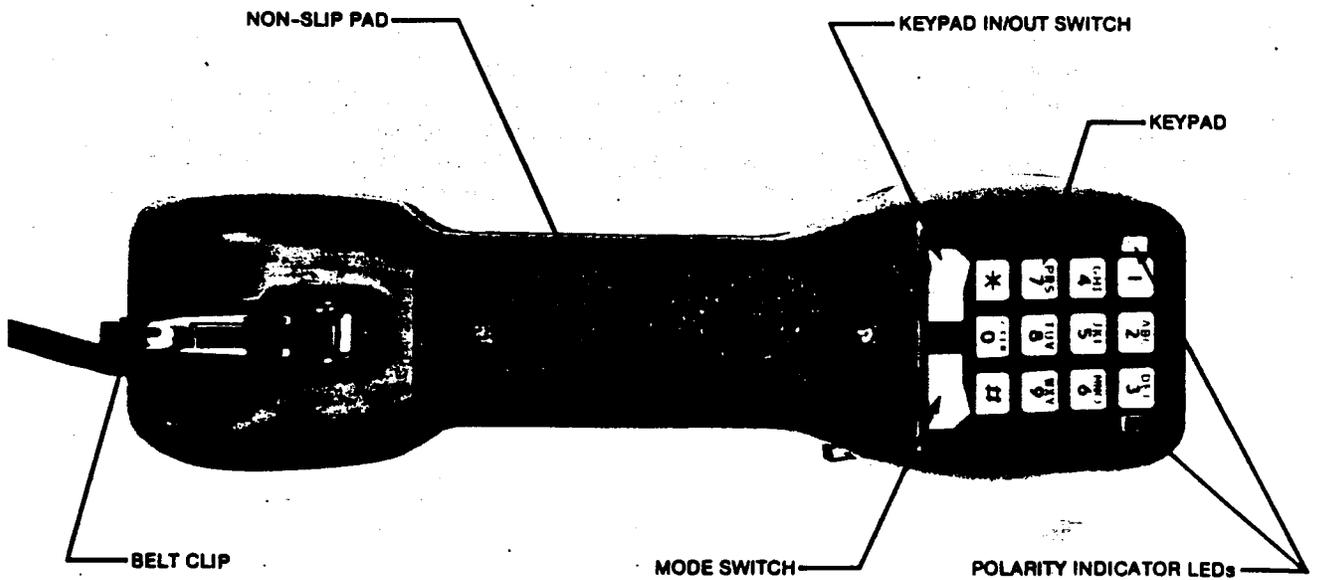

Fig. 3—TS21 Handset Assembly—Dial Side
3.08 Mode Switch: The MODE switch is a white rocker switch located on the bottom right of the keypad bezel (Fig. 3). This switch selects either tone or pulse dialing. In the TONE position, the switch selects the DTMF output. In the PULSE position, it selects the dial pulse output.
3.09 Keypad Switch: This is a white rocker switch located in the bottom left corner of the keypad bezel (Fig. 3). When the switch is set to the IN position, the test set operates as a modern electronic telephone instrument. The IN position is used for all normal communications functions. Set to the OUT position, the switch bypasses the electronics including the keypad. In this mode, dialing is not possible and the test set operates at much lower voltages, functioning much like the older mechanical dial test sets. The OUT position is recommended when testing at or near the loop limit or testing on dry circuits. The OUT position is also useful when the test set is used for local communications with another craftsperson when talk battery is supplied by a local battery source such as that provided by "TONES" or other types of installer test equipment.
3.10 Keypad: The keys on the keypad are used for dialing. There are twelve keys on a bezel which is recessed into the receiver end of the case to provide both physical protection to the keypad and to prevent accidental key operation (Fig. 3). The actual mode of dialing, either tone or pulse, is determined by the setting of the MODE switch described in paragraph 3.08.